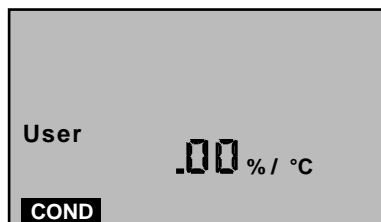

Figure 3
- b. With “USER” selected, press . If the display does not show .00%/°C, hold  long enough to bring the tempco to .00%/°C (see Figure 3).